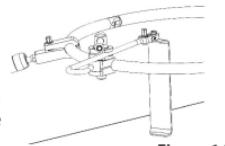

Figure 14
- **Ring Clamps** (AL-0103) attach to any point on the ring. To attach, loosen knob of the **Ring Clamp** and press the larger of the two openings onto the **Retractor Ring**; the **Ring Clamps** will snap onto the **Retractor Ring**. Press the shaft of the **Blade Holder** into the smaller opening of the **Ring Clamp** to attach the two components. The **Ring Clamp/Blade Holder** Assembly can be freely adjusted until the knob of the clamp is tightened. Additional **Ring Clamps** and **Blade Holders** may be added to the **Retractor Ring** as desired. (Figure 14)